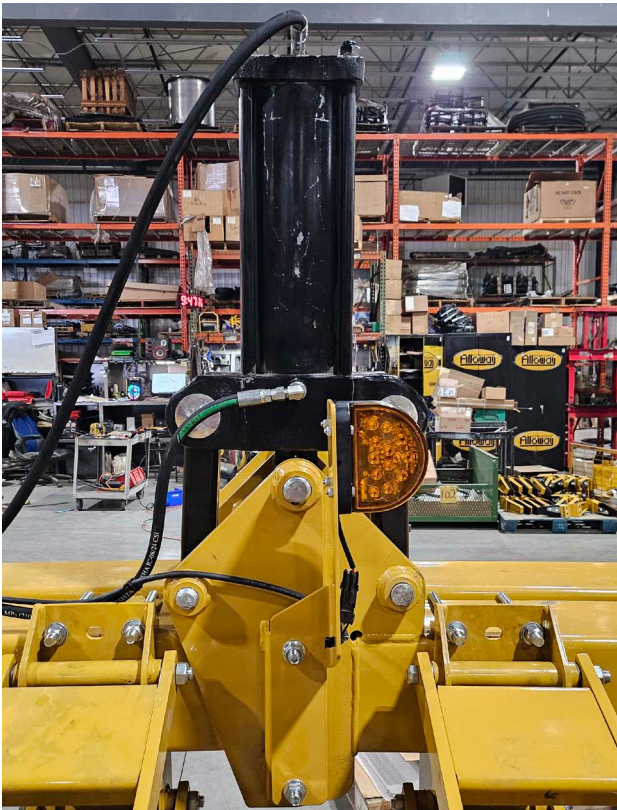

Figure 13 Storage Position
1. Lower rear parking stands (folding cultivators without lift assist) to the ground and pin in position so that parking stands will be vertical when tractor is removed. Front and rear stands should be pinned in the same hole position as shown in Figure 13.